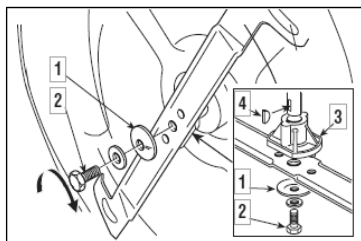

Figure 35
When re-fitting the blade, always follow the indicated sequence, making sure that the blade's wings are facing towards the interior of the cutting deck and that the concave part of the cup spring (Figure 35 ①) is pressing against the blade.
Tighten the fixing screw (Figure 35 ②) using a torque wrench set to 45-50 Nm. If the shaft hub (Figure 35 ③) came off when dismantling the blade, make sure that the key (Figure 35 ④) is firmly in its right position.